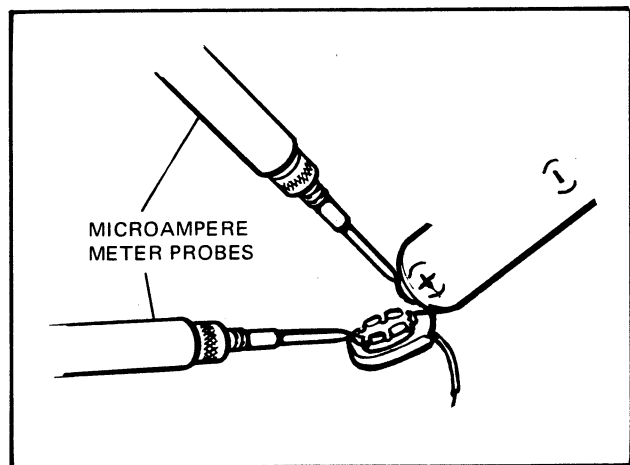

FIG. 3.2 TIMER BATTERY CURRENT DRAIN TEST
3. Disconnect the positive end of the timer battery from the terminal. Place one probe of a microampere meter on the positive terminal of the battery and the other probe on the terminal receptacle as shown in Figure 3-2.